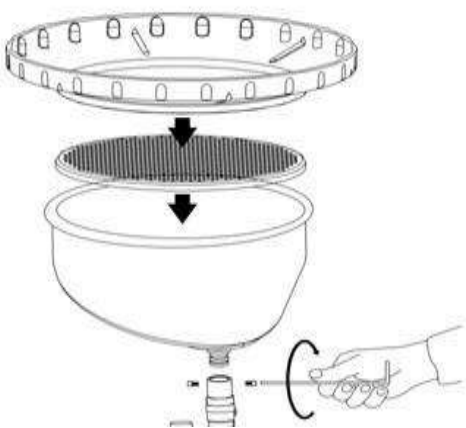

FIG.1
2. FIG.1 Install and fix the oil tray, strain, extensions funnel together.